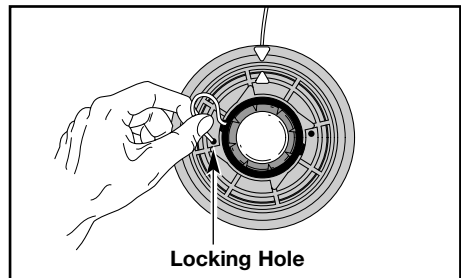

Fig. 19
3. Insert the line into the locking hole (Fig. 19) no more than 1/2 inch (12.7 mm). Do not push the line too far into the inner reel. A small loop is formed when the line is inserted correctly (Fig. 19).